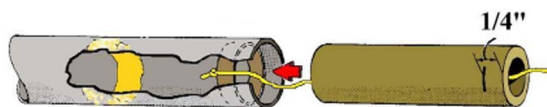

Figure 2
- **Step 4** Mark an expended engine casing 1/4" from one end. As shown in Fig. 2, apply a generous bead of glue around the inner diameter of the body tube, 2.5" from one end of the tube. This end will become